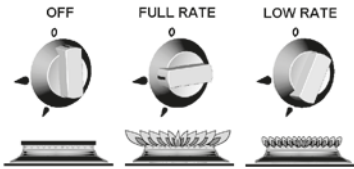

Fig. 1
3. To light: Push in the control knob and turn to full rate – see Fig.1. Hold a lighted match or taper to the burner and push the control knob in and hold. It is necessary to hold the knob depressed after the burner has ignited for approximately 10 - 15 seconds, to allow the thermocouple probe to reach temperature, before releasing the knob. Should the flame go out when the knob is released, the procedure should be repeated holding the knob depressed for slightly longer.
2. To light: Open door, push in the control knob and turn to full rate – see Fig 1 (page 153). Hold a lighted match or taper to the burner and push the control knob in and hold. The burner should ignite and the control knob should be held in for 10 -15 seconds before release.